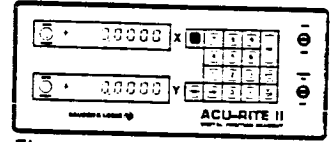

Figure 5
2. Push PRESET key on desired axis (Figure 5). The key will light up, and the display will indicate the value in the preset memory (zero or any previously entered number).